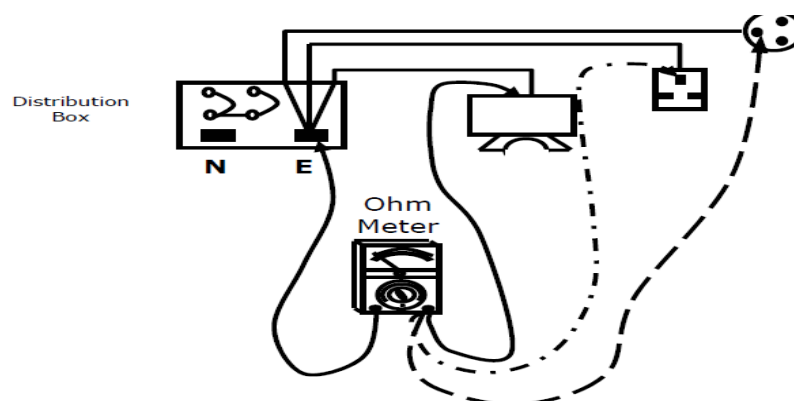

Figure 1.71 Protection Conductor Continuity Test
- ✓ Connected the test leads as in the Figure 1.71;